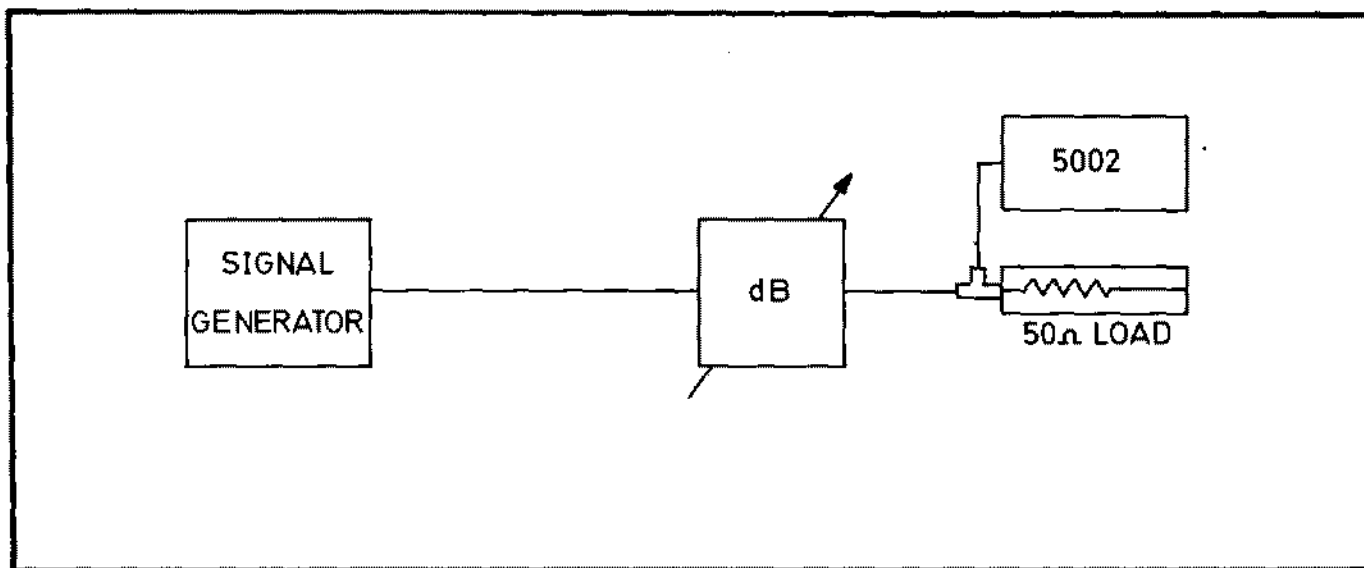

Fig. 6.4 Mean Detector Setting
- 6.5.11.4 Connect the test equipment as shown in Fig. 6.4.